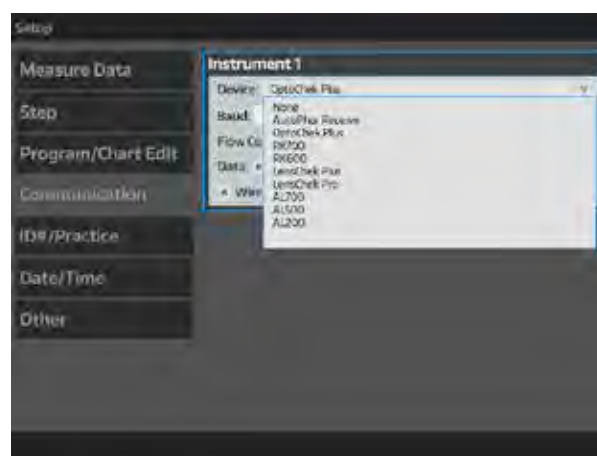

Figure IS-34 Settings Menu
2. Select the instrument from the drop down Device tab. Refer to Figure IS-34.